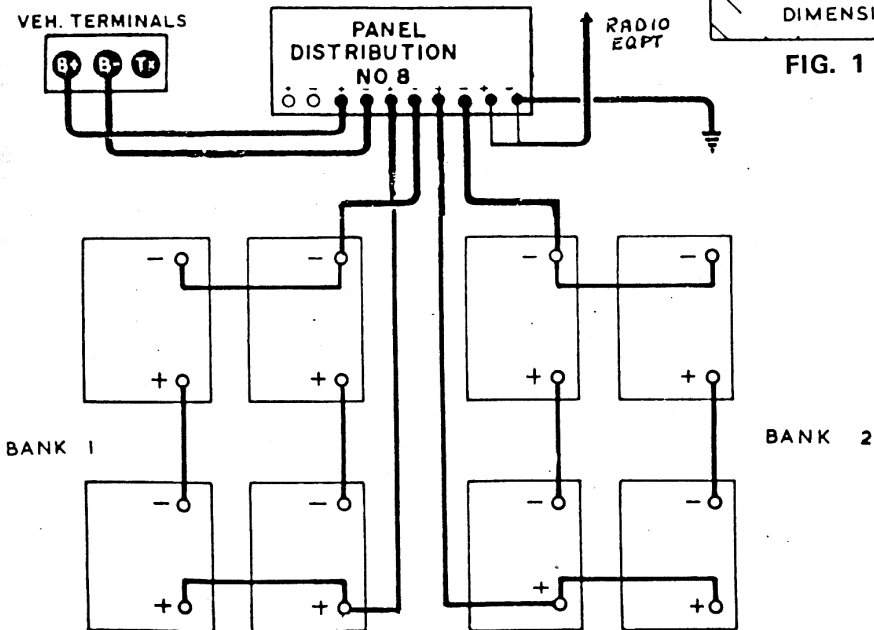

FIG. 2 - BATTERY CONNECTIONS
- g. Using item 4, 5 and 6 manufacture battery connecting leads (fig 2).
- h. Connect batteries as illustrated in fig 2 and test for correct operation.